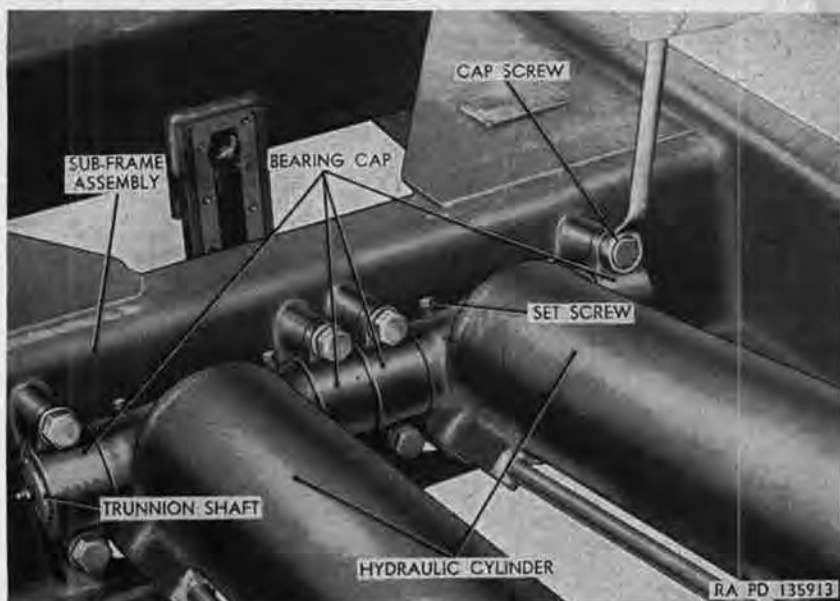

Figure 329. Top rear view of hoist cylinder base mounting.
- (4) Remove four cap screws (fig. 329) and lockwashers securing two bearing caps to subframe cross member, remove bearing caps, and remove cylinder with trunnion shaft from cross member.
- (5) Loosen two square-head setscrews (fig. 329) securing trunnion shaft to cylinder base, and remove shaft from cylinder.
- (1) Insert trunnion shaft (fig. 329) in bore at base of hoist cylinder, and tighten two square-head setscrews to lock shaft in bore.
- (2) Position trunnion shaft with cylinder on rear face of sub-frame cross member (fig. 329), position two bearing caps on shaft ends and secure caps to cross member with four cap screws and lockwashers.